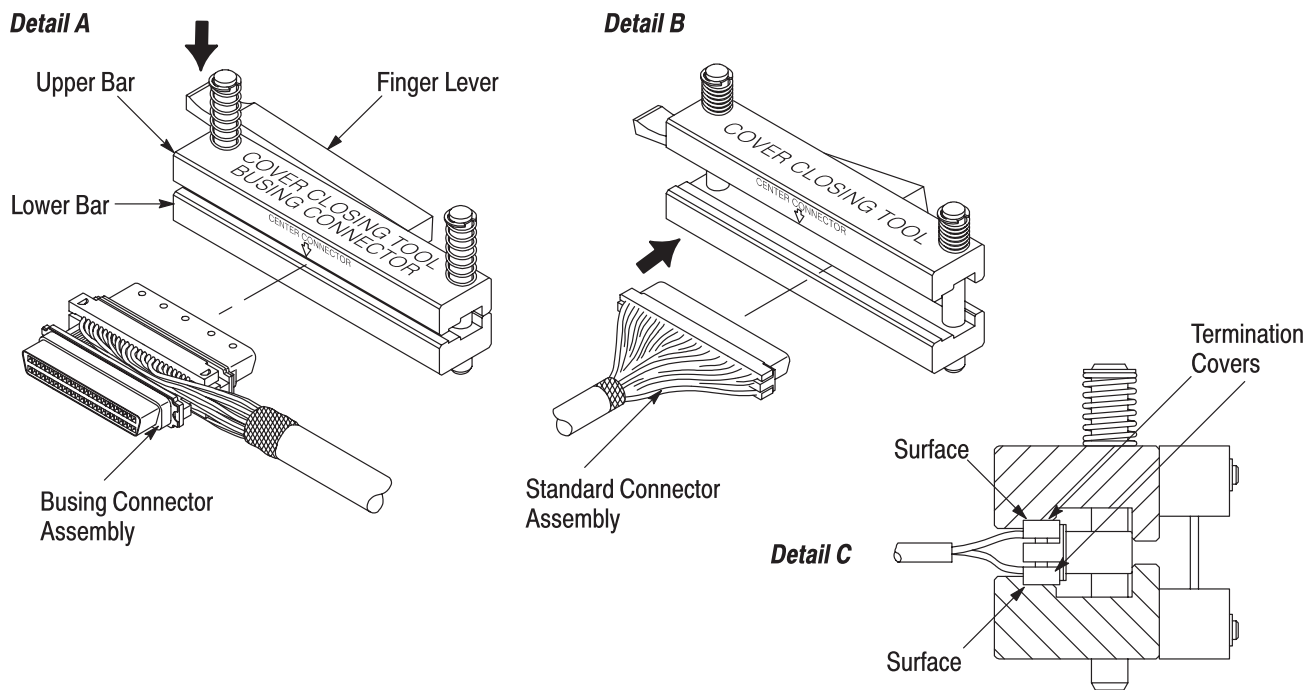

Figure 4
4. Depress the finger lever (see Figure 4, Detail A) and insert the connector assembly (centered) into the lower tooling assembly between the upper and lower bars (see Figure 4, Detail B). The connector is properly located if the upper and lower termination covers rest on the surfaces indicated in Figure 4, Detail C.